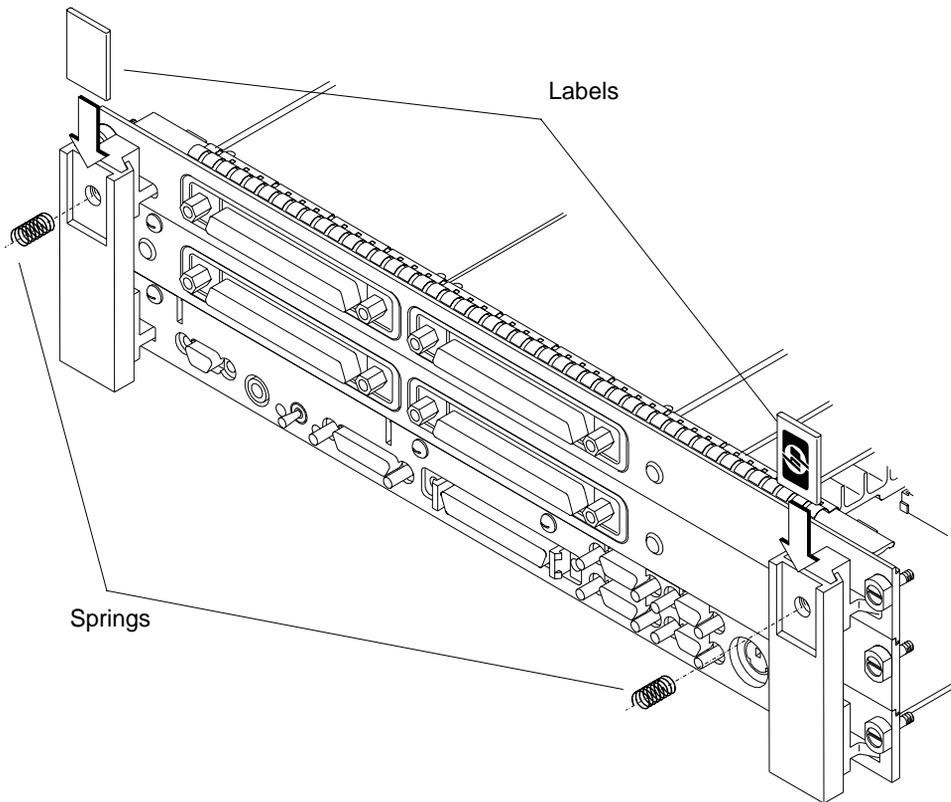

Figure 2-13
- c Thread the springs included in the kit into the ejector handles on the PMC expansion board, and with the springs compressed, slide the labels from the Model 744 Board Computer into the sleeves, as shown in Figure 2-13.